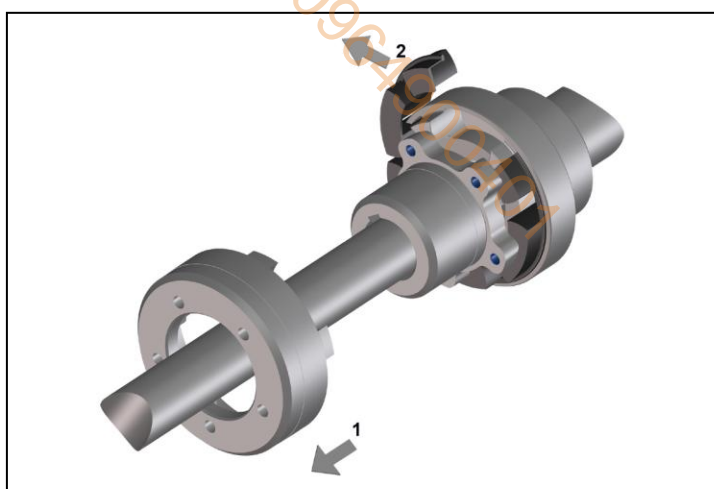

Fig. 12
- Remove the holding-down screws on the claw ring and push it back (Figure 12, Pos. 1)
- Cut through the intermediate ring at a connecting joint (Figure 12, Pos. 2)